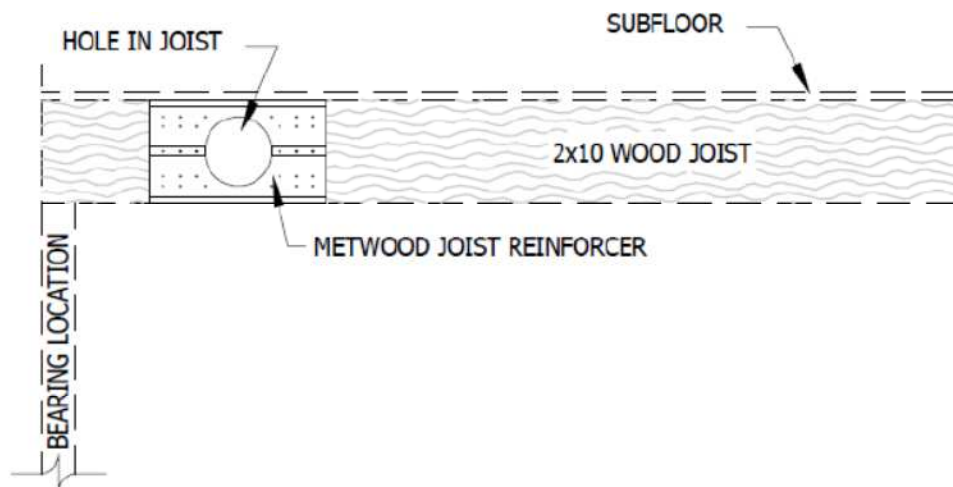

FIGURE 2 – INSTALLATION DIAGRAM OF 2810HR JOIST REINFORCER
5.1 Metwood 2810HR Joist Reinforcer is installed with 30 SFS Intec #12-8 XG (0.133" shank dia.), 1-1/2" long, pancake head, carbon steel wood screws in the designated pre-drilled holes. See Figure 2 for fastening pattern.